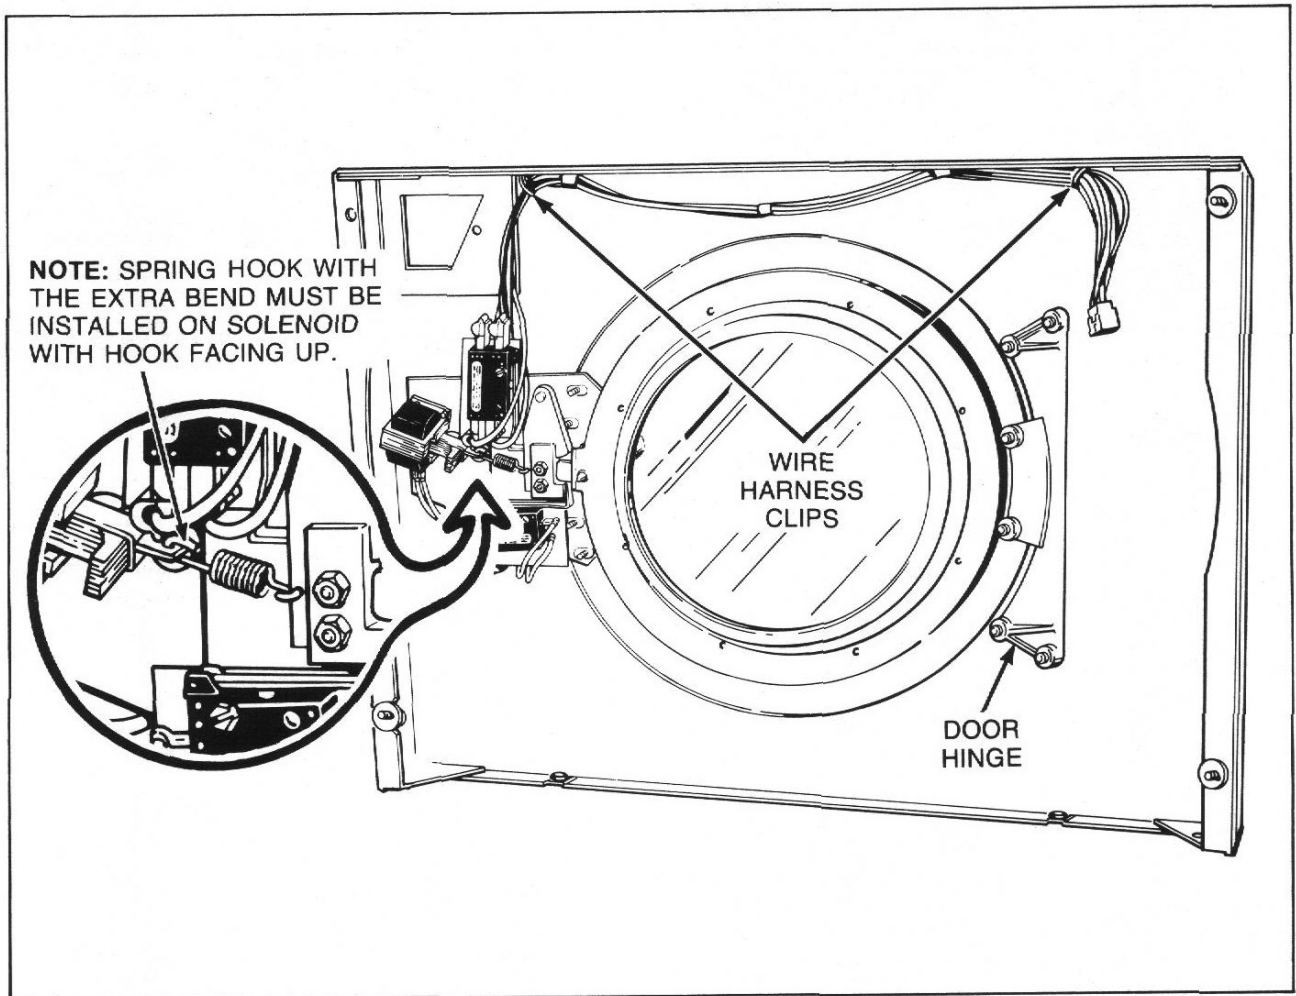

Figure 14
- o. Remove screws holding door hinge to front panel, *Figure 14*.
- c. Remove two wire harness clips from top flange of front panel, *Figure 14*.
**NOTE:** When connecting spring to solenoid, hook on spring must be facing up, *Figure 14*.